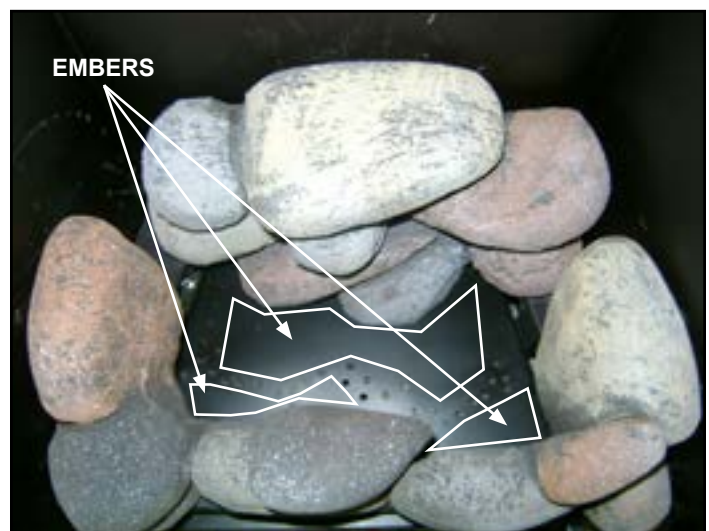

Figure 8.20 - Ember Placement
- Place dime-size pieces of embers in the areas highlighted in Figure 8.20. Care should be taken so that the ports are not covered. Failure to follow this procedure will likely cause lighting and sooting problems.